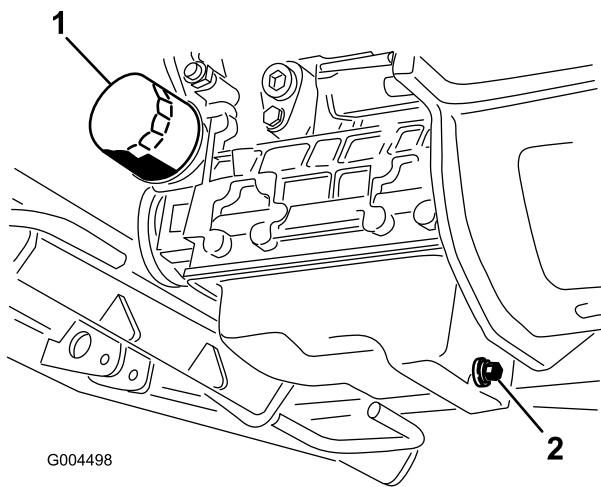

Figure 43
3. Set a drain pan under the oil pan and in line with the drain plug (Figure 43).
6. Remove and replace the oil filter (Figure 43).